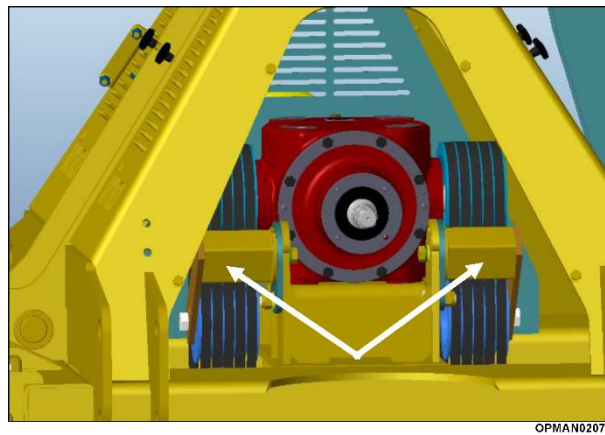

Figure 30
9.3.2.2 Remove the belt tensioners (Figure 30).
- 9.3.2.6 Re-install belt tensioners and tension them according to instructions as shown in Figure 30.